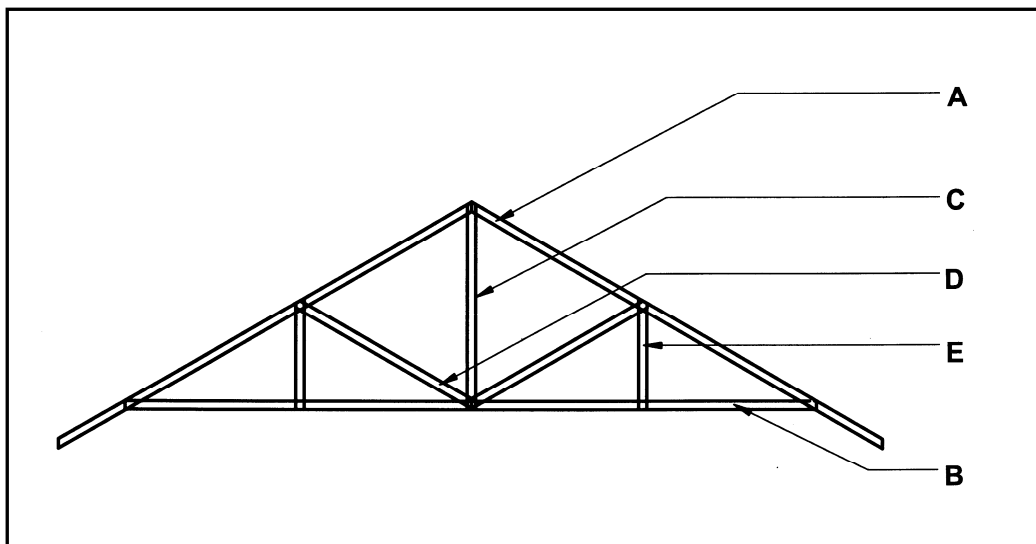

FIGURE 4.1
FIGURE 4.1 below shows the elevation of a South African roof truss. The length of each member is shown in the table below the drawing.
- 4.1.1 Use the measurements for each member marked A – E in FIGURE 4.1 above and calculate the amount of material required to make TEN trusses. Use the measurements given above and do not make provision for trimming.